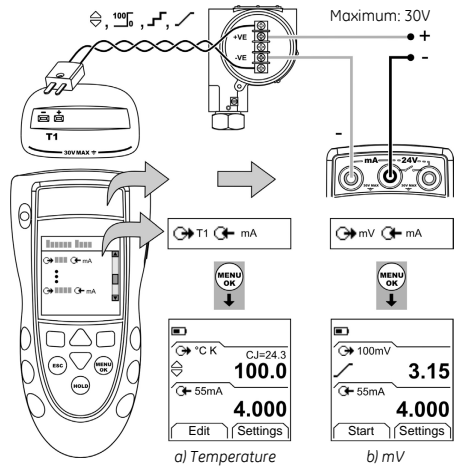

Figure 3: Example configuration - Transmitter calibration with external loop power
1. Connect the instrument (Figure 3/4) and, if necessary, adjust the Set Up (Table 1).